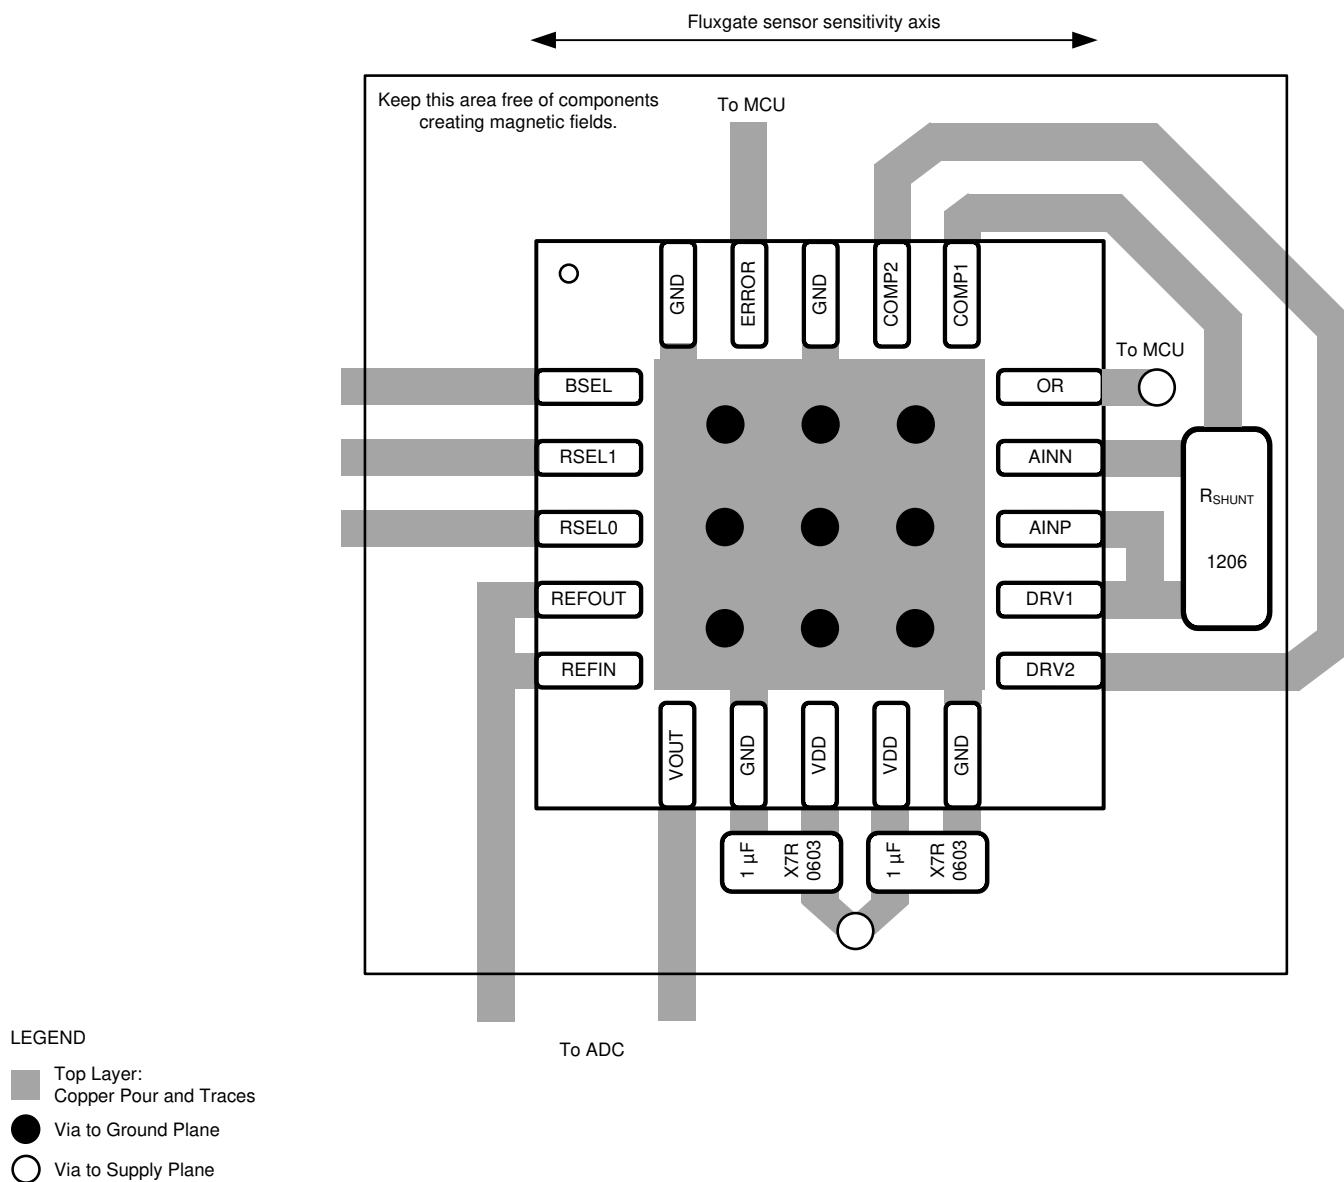

Figure 76. Generic Layout Example (Top View)
Decouple both VDD pins of the DRV425-Q1 with 1-μF, X7R-type ceramic capacitors to the adjacent GND pin, as illustrated in Figure 76. For best performance, place both decoupling capacitors as as possible close to the related power-supply pins. Connect these capacitors to the power-supply source in a way that allows the current to flow through the pads of the decoupling capacitors.
- Route currents parallel to the fluxgate sensor sensitivity axis as illustrated in Figure 76. As a result, magnetic fields are perpendicular to the fluxgate sensitivity and have limited affect.
Figure 76 illustrates a generic layout example that highlights the placement of components that are critical to the DRV425-Q1 performance. For specific layout examples, see the DRV425EVM users guide.